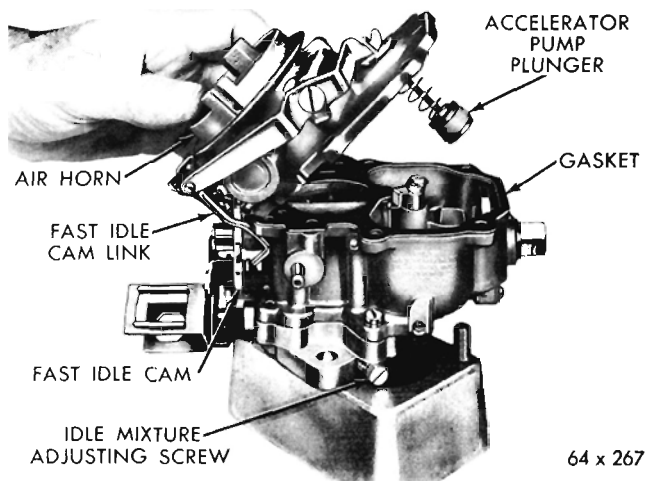

Fig. 3—Removing or Installing Air Horn
(5) Remove the vacuum diaphragm and bracket assembly and place to one side to be cleaned as a special item. A liquid cleaner may damage the diaphragm material.
(6) Remove the air horn retaining screws.
(7) Tilt the air horn toward the throttle lever far enough to disengage the fast idle cam link from the fast idle cam, as shown in (Fig. 3). Lift air horn up and away from main body. Discard the gasket.
(8) Disengage the accelerator pump plunger from the rocker arm, by pushing up on the bottom of